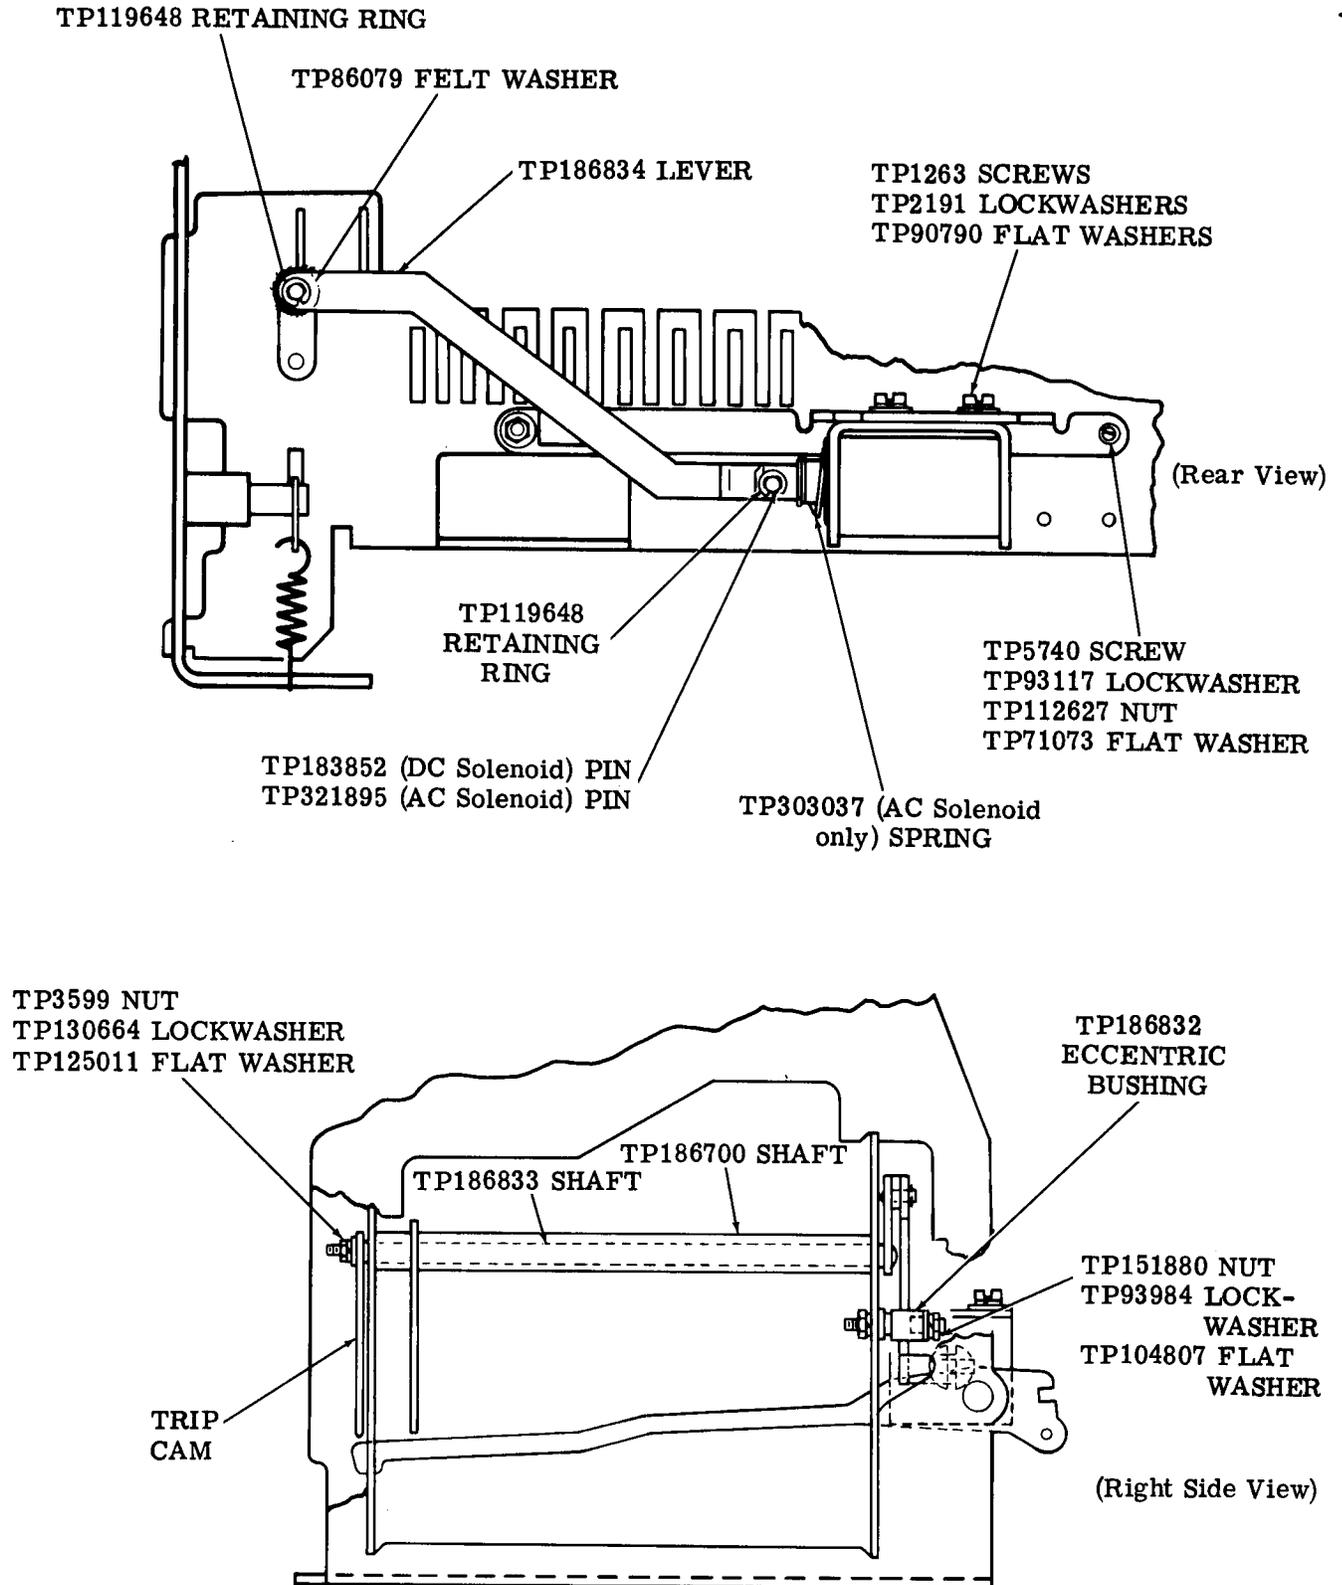

Figure 3 - Locking Mechanism
2.07 To remove locking mechanism (Figure 3), proceed as follows: